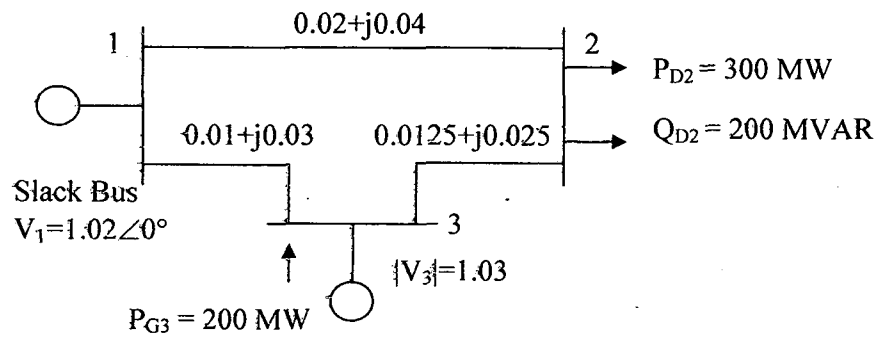

Fig. Q12
- 12(b) Fig. Q12 shows the one-line diagram of a simple three-bus power system with generators at buses 1 and 3. The line impedances are marked in per unit on a 100 MVA base. Find out the bus voltages after one iteration using Fast Decoupled method. (16)